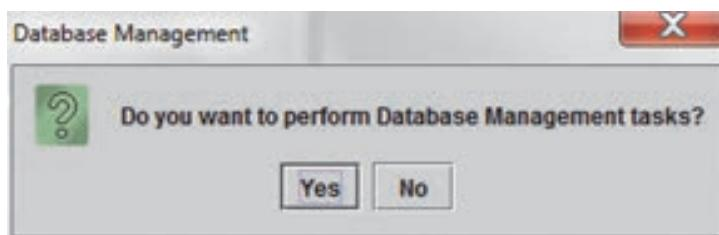
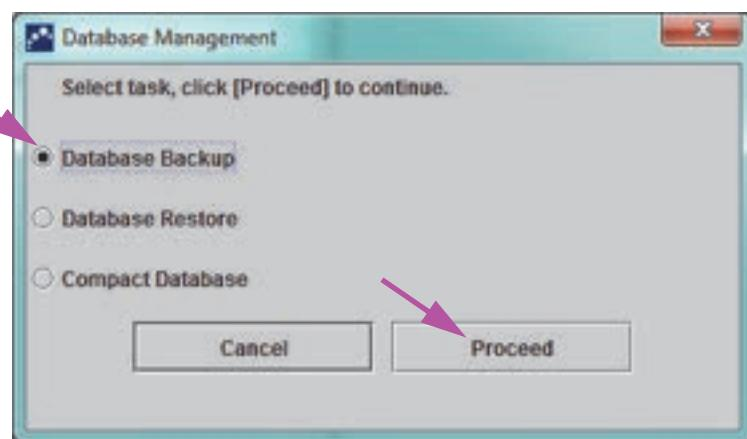

Figure 2-99. Database Management Dialog Box
Figure 2-100. Database Management Dialog Box
- If the **Database Management Reminders** box on the System Configuration dialog box (see Figure 2-77) is **not** checked, the Database Management Dialog Box (see Figure 2-99) will not appear, and no further action will be required. The software will close when the **Exit** button is clicked in Section 2.17.1, Step 3, and you can skip to Section 2.17.1.3 to complete the shutdown sequence.
- If the **Database Management Reminders** box on the System Configuration dialog screen (see Figure 2-77) is checked, the Database Management dialog box (see Figure 2-99) will then appear on top of the GeneXpert Dx System window, asking if you want to perform Database Management tasks.
- A. If you click **No** on the Database Management dialog box (see Figure 2-99), the GeneXpert Dx software closes and you can proceed to Section 2.17.1.3 to complete the shutdown sequence.
- B. Click **Yes** in the Database Management dialog box (see Figure 2-99), and you will be asked to select the task to be performed (see Figure 2-100).
Depending on the user's privileges, all (or some) of the four options in the Database Management dialog box may not be visible. See Figure 2-100.